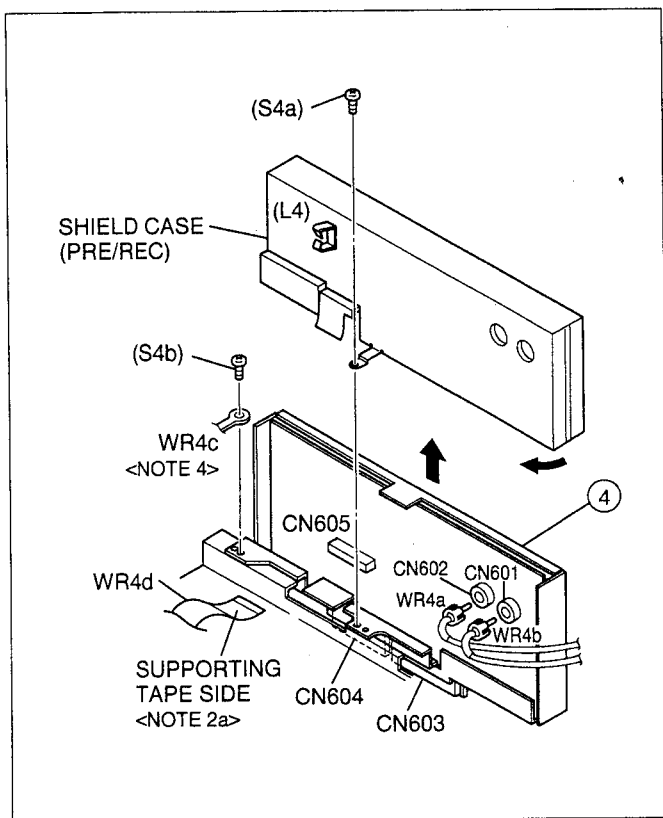

Fig. D4
- (5) Remove the wires CN601 and CN602 on the PRE/REC board assembly. (See Fig.D4 of DISASSEMBLY/ASSEMBLY METHOD.)